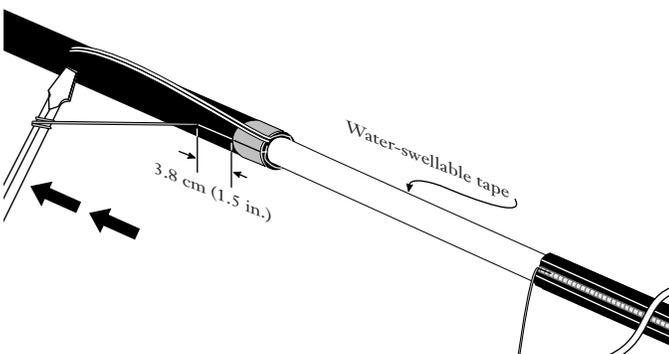

Figure 34
7.13 Using the shaft of a screwdriver as a handle, pull the two rip cords, one at a time, through the tape, sheath, and armor to a point approximately 3.8 cm (1.5 in.) past the tape mark (Figure 34).